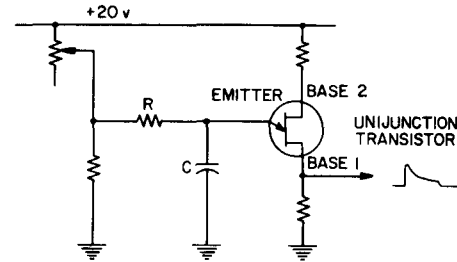

Figure 3-4. Circuit diagram of a relaxation oscillator with a unijunction transistor.
**3.5.2 TIME-BASE DIVIDERS.** Five frequency dividers provide the standard gate times of 0.1, 1, and 10 seconds in the Type 1150-A Digital Frequency Meter. The dividers use unijunction transistors in synchronized stable relaxation oscillators (see Figure 3-4). The unijunction transistor, or double-base diode, is a silicon unit which will "breakdown" and conduct heavily between emitter and base 1 when the emitter reaches a specified potential (about one-half the supply voltage) with respect to base 1. Before breakdown, the emitter presents a very high resistance to the timing circuit. After breakdown, a high current passes between emitter and base 1, discharging the timing capacitor. When this discharge current reaches a small value, the breakdown condition ends and the timing capacitor begins to recharge toward the supply voltage. The supply voltage to which the upper base is referred is modulated by the input synchronizing pulses. Breakdown is therefore determined by the combination of the rising emitter voltage and the falling synchronizing voltage.1